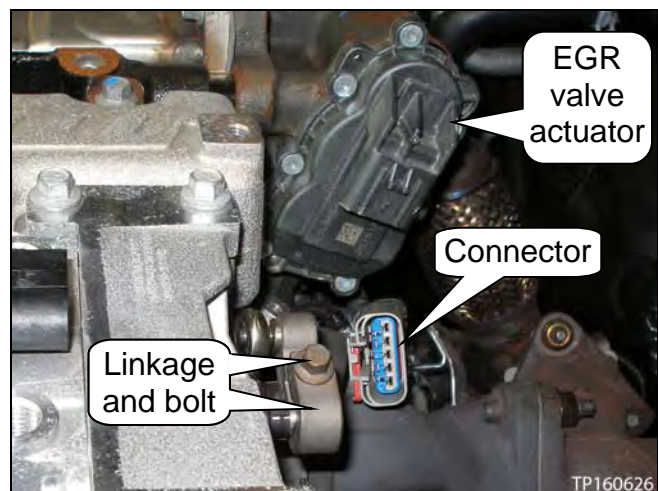

Figure 90
35. Connect the EGR valve actuator connector (see Figure 90).